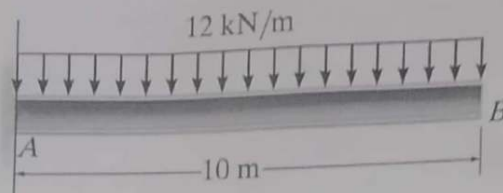

Figure-04
- b). Calculate the displacement of point B of the steel beam shown in Figure-04 using [04] the method of virtual work. Take $I = 500 \times 10^6 \text{ mm}^4$ and $E = 200 \text{ GPa}$. [CO4, C4]